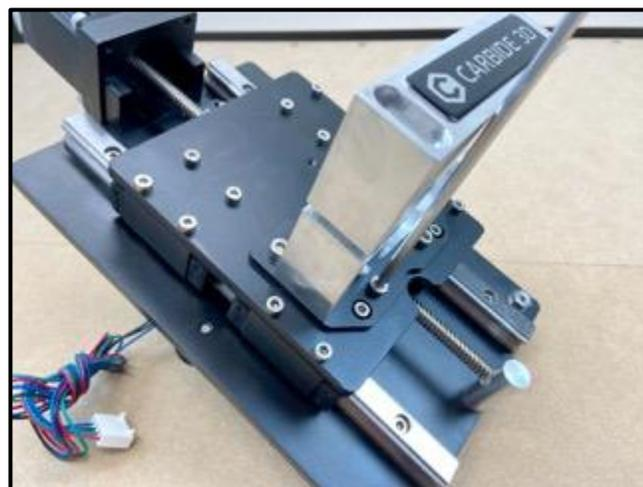

Figure 3-12
2. Position the router mount with “Carbide 3D” logo upright and tramming plate resembling the letter “U.” Place it onto the front of the Z-Plus and align the four (4) tramming plate through-holes with the four (4) available M5 screw holes on the front of the Z-Plus.
3. Use the 4mm hex key and the four (4) M5x8mm socket head cap screws to secure the router mount and tramming plate to the Z-Plus and tighten. *Figure 3-12*.